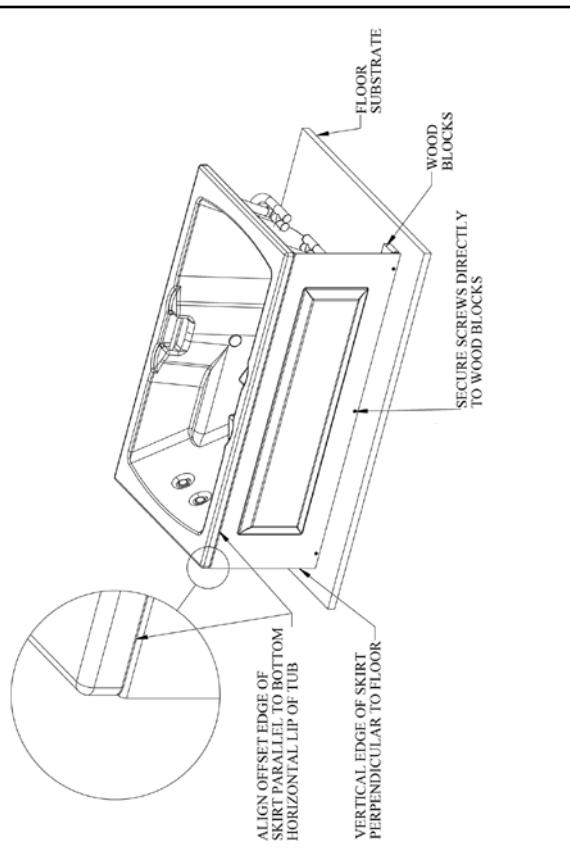

FIGURE 2
4. Slide upper side of skirt **(SEE FIGURE 4)** under the lip of the tub. Align the offset edge of the skirt so it is parallel with the bottom of the bath lip **(SEE FINAL ASSEMBLY DIAGRAM ON PAGE 14)**. The panel should slip into place between the lip rim and the four spring clips **(SEE FIGURE 4)**. While holding skirt at the bottom, move it inward toward the tub **(SEE FIGURE 2)**. The vertical edge of the skirt should be aligned perpendicular to the floor **(SEE FINAL ASSEMBLY DIAGRAM)**.
SEE FIGURE 2 AND FINAL ASSEMBLY. To secure the bottom of the skirt, wood blocks (2 for 5' skirts or 3 for 6' skirts), will need to be anchored to the floor. Use a level (that is held against the outside face of the tub lip and touching the floor) at each pre-drilled hole location to mark where the face of the skirt panel will be aligned. Subtract the thickness of the skirt and the structural support to position the wood blocks. Anchor the blocks to the floor, then screw the 1 3/4" #8 screws, through the decorative caps and the pre-drilled holes, into the wood blocks.